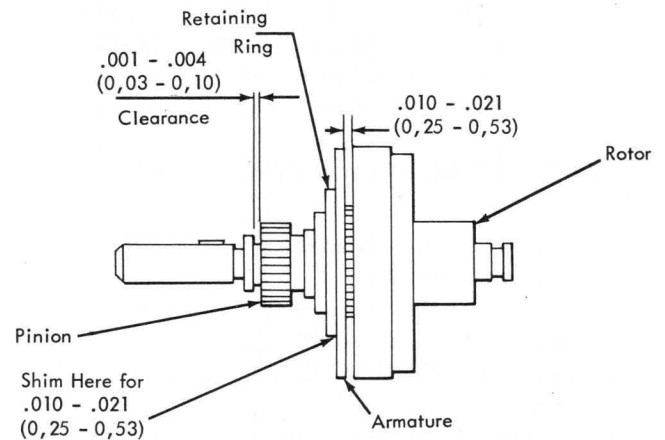

Figure 4-57. Friction-Style Ribbon Clutch
- b. Position the rotor assembly for a clearance between the pinion and the shoulder on the clutch shaft of .001 to .004 in. (0, 03 to 0, 10 mm) (Figure 4-57).
2. Friction style clutch adjustment (Figure 4-57):